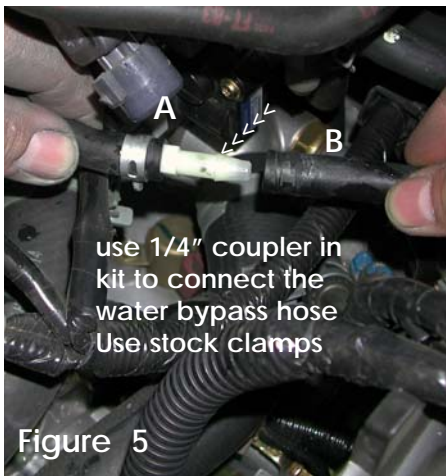
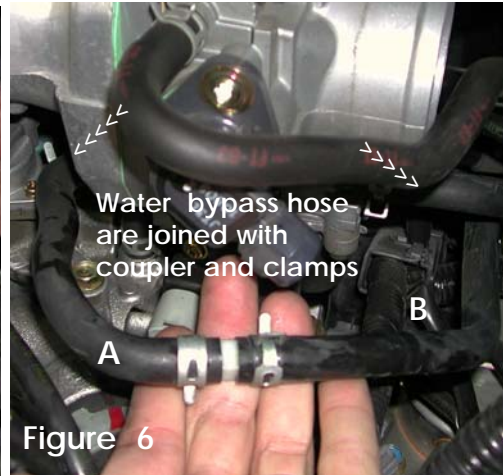

Figure 5
Figure 6
2. Remove the PCV pipe, remove vacuum hose and reconnect the water bypass hose. See dia. (A) Take the 1/4" coupler and press one end into the hose as seen in figure 5 hose (A). The other end of the coupler will be pressed into bypass hose (B). Close the loop by joining both end and use the stock clamps to secure the water bypass lines. (See fig. 6)